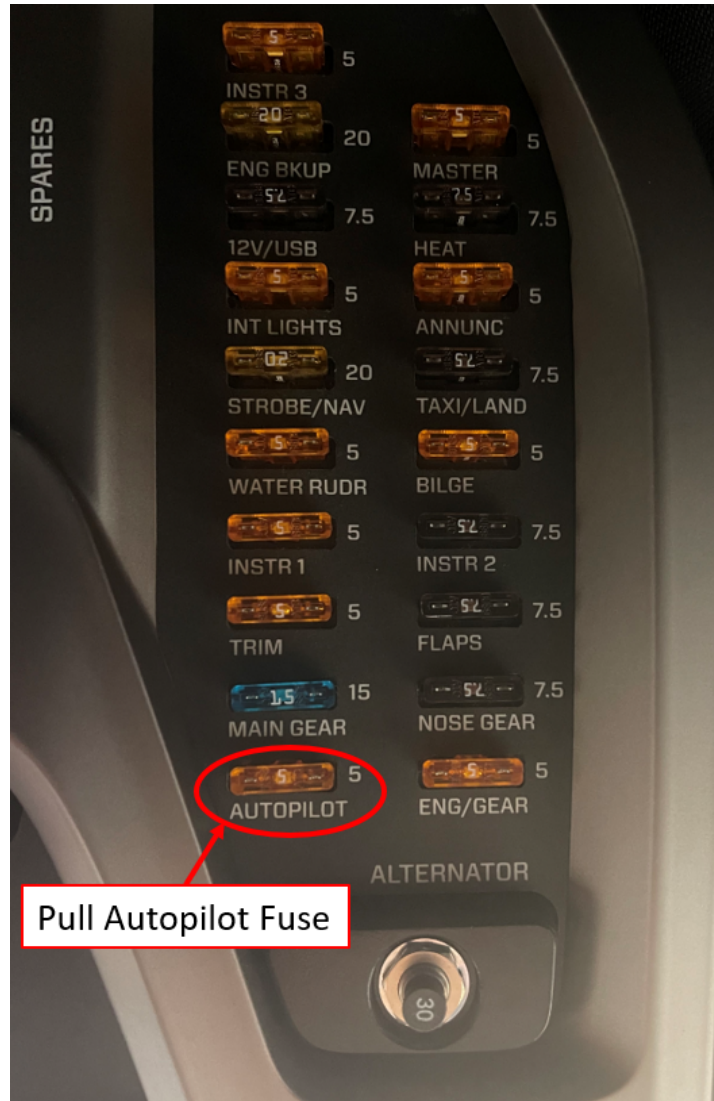

Figure 1 Overhead Fuse Panel
1. Remove the autopilot fuse (see Figure 1) from the overhead fuse panel